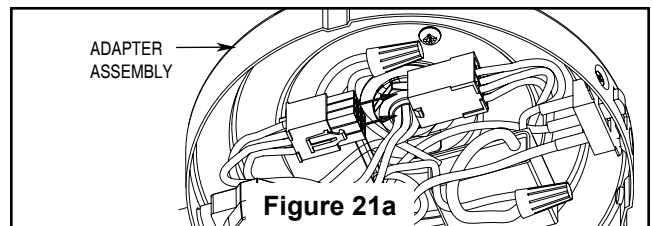

Figure 21a
- 3a. Securely attach the 9-pin switch cup connector to the wiring harness socket within the adapter assembly. (Figure 21a)